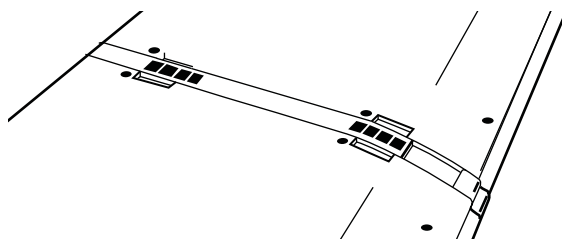

Figure 2-5 MC Mixes attached by connecting at side panel
4. Slide the connecting part of the second MC Mix into first MC Mix to attach them together (Figure 2-5).